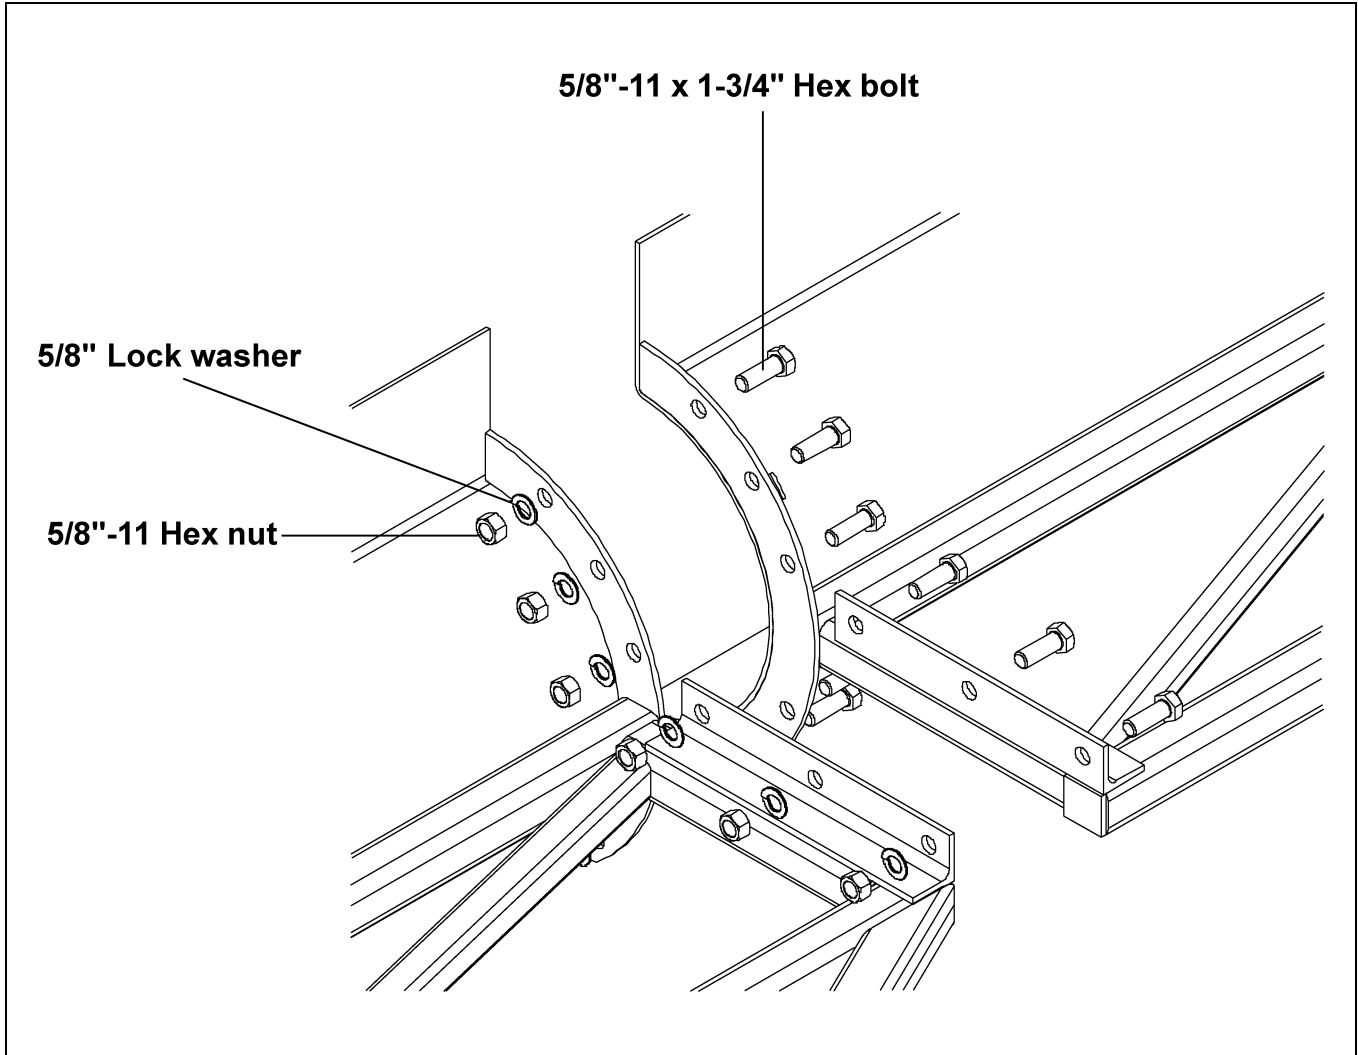

Figure 5B
- D. Use eight (8) 5/8"-11 x 1-3/4" grade 8 hex bolts, lock washers and hex nuts at each section connection.
*The bolts **MUST** be installed as shown in Figure 5B.*